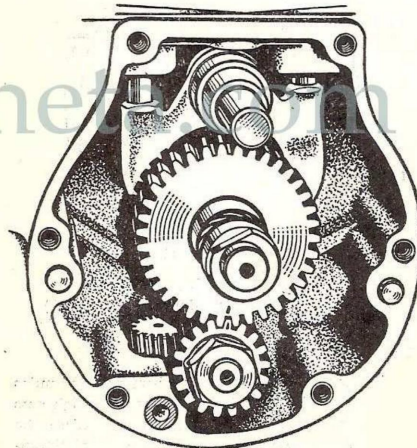

Fig. 7. Valve timing marks.
5. *The timing marks.* The engine shaft pinion and the cam pinion are both marked, the former with a dash on one of the teeth and the latter with a dash between two of the teeth. Note that when the piston is at T.D.C. of the compression stroke, the two marks register one with the other (Fig. 7). Alternatively, they should register at every second revolution of the engine shaft.